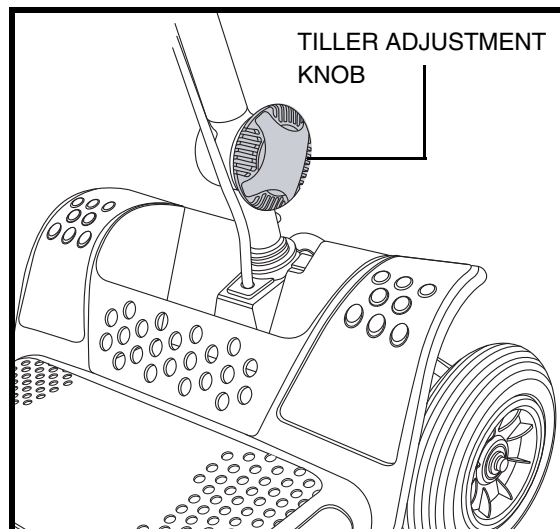

Figure 16. Tiller Adjustment Knob
1. While supporting the tiller, turn the tiller adjustment knob anticlockwise to loosen the tiller. **See figure 16.**